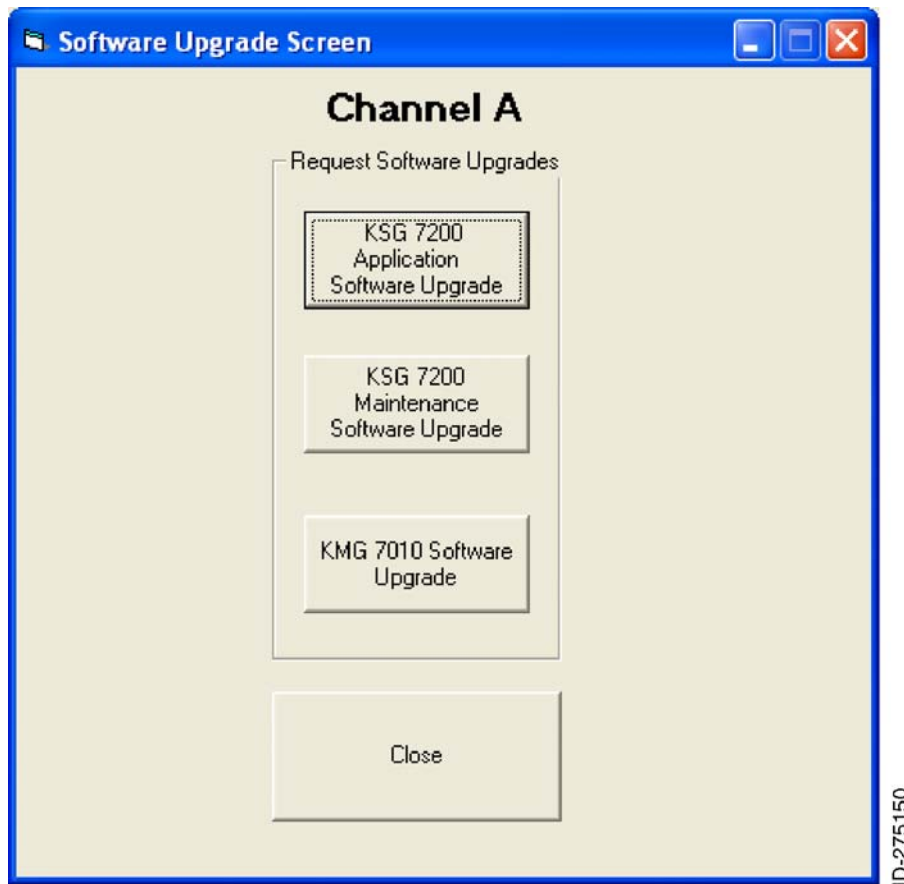

Figure 8. (Sheet 1 of 1) Software Upgrade Screen Window
- (7) The Software Upgrade Screen window will appear. Refer to Figure 8.